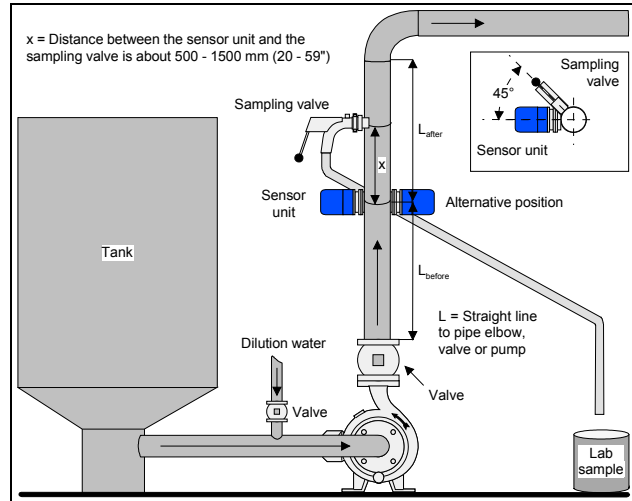

Figure 1. Installation in the vertical pipe.
- ❑ Check that pump and valve axes are parallel (fig. 1).
- ❑ Check that the sensor unit's and the pump's axes are perpendicular to each other (fig. 1).
- ❑ Check that the sampling valve is installed 500 – 1500 mm (20 – 59") after the sensor unit (fig. 1).
- ❑ Check that there is required amount () of straight pipeline before the sensor unit (fig. 1). Normally 3 – 10 x D.
- ❑ Check that there is required amount () of straight pipeline after the sensor unit (fig. 1). Normally 1 – 3 x D.